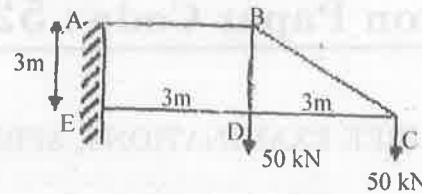

Fig.Q.11(a)
11. (a) Find the forces in the members of the truss shown in Fig.Q.11(a). The cross sectional area and Young's modulus of all the members are same. pt